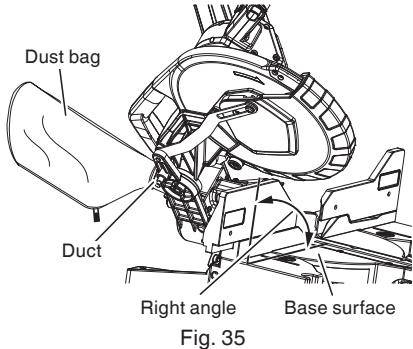

Fig. 35
- (2) During bevel and compound cutting, attach the dust bag at a right angle to the base surface as shown in Fig. 35.